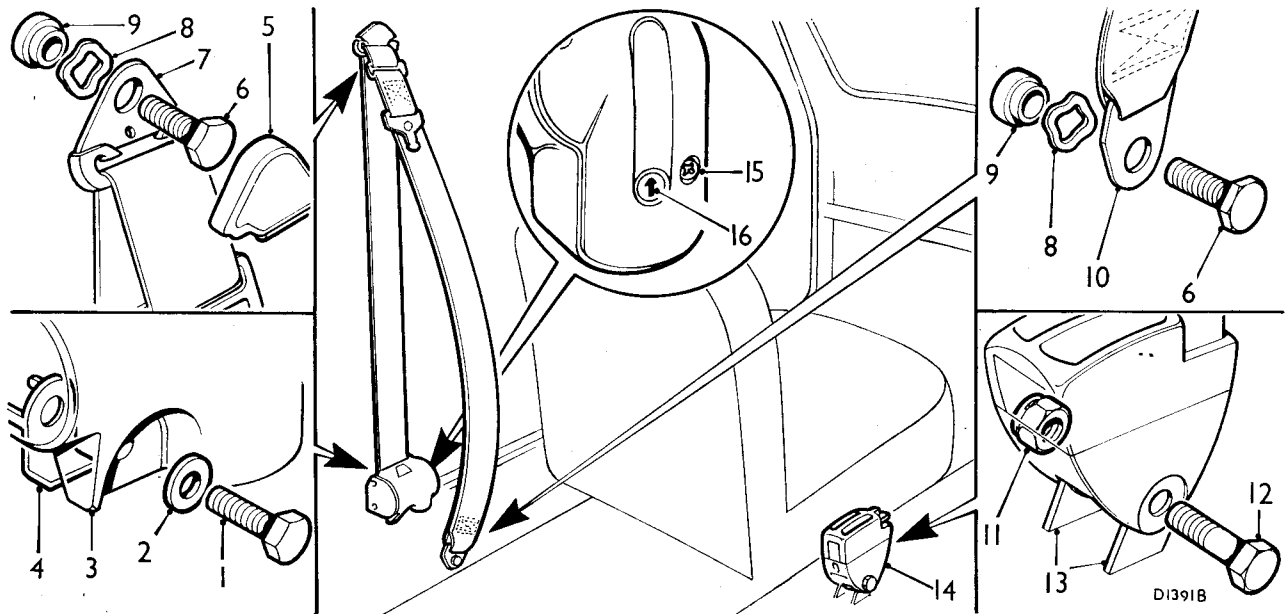

Fig. Rb.12
- (4) Remove the reel retaining screw (1) with the plain washer (2) and detach the reel assembly, see Fig. Rb.12.
- (5) Carry out operation (3).
- (8) Reverse the order of the removing procedure, noting the following:
- (a) On the Britax belt use the short retaining screw (11) with the shallow shouldered distance piece (13) when attaching the belt bracket to the sill mounting point.
Kangol. Check that the 'arrow' on the side of the reel is pointing vertically. To adjust, slacken the screw (15) adjacent to the arrow, turn the arrow (16) to the vertical position and retighten the screw, see Fig. Rb.12.